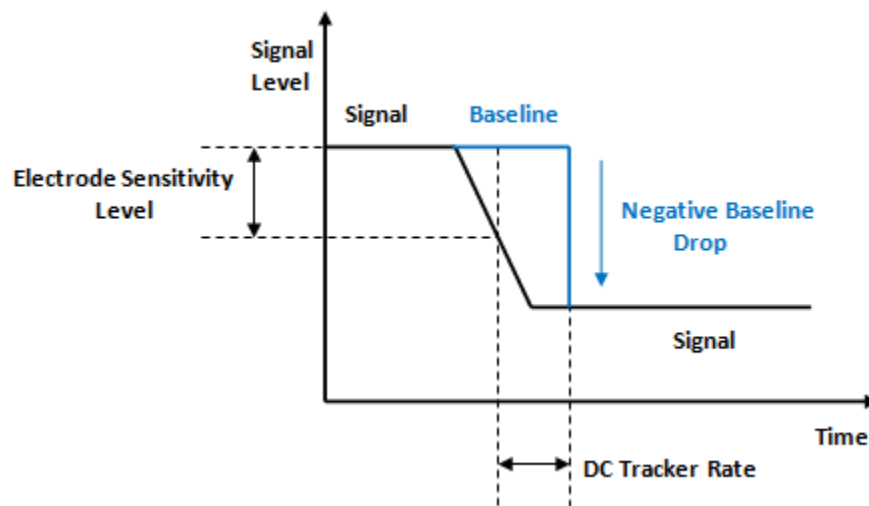

Figure A-10. Negative baseline drop
1. **The ASC enabled without Sensitivity configuration** — The feature automatically manages sensitivity for each electrode during the overall run of the application. Figure A-10 shows a description of the ASC operation.
Negative baseline drop is an internal part of the standard baseline tracking algorithm. The function adjusts baseline level if the signal level drops below the baseline. When a signal level is lower than the sensitivity value in a negative direction below the baseline, then the baseline is set to a signal level. Figure A-10 shows a description of the function. The function helps to adapt the system to not have a predictable drop of the signal caused by noise, or dynamic system recalibration. The refresh rate of negative baseline drop is defined by the baseline-tracking rate. For more information how to configure the baseline-tracking rate, refer to Section 3.4.7, “DC Tracker Rate register.” The function can be enabled or disabled by the `TSS_USE_NEGATIVE_BASELINE_DROP` macro defined in the `TSS_SystemSetup.h`. For more details about this macro setting, refer to Section 2.1.20, “Negative baseline drop.”